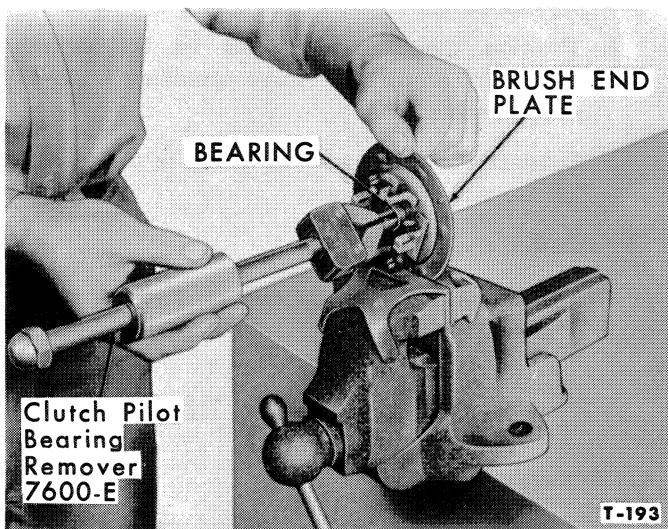

Figure 26—Removing Brush End Plate Bearing
1. Remove the bearing from the brush end plate as shown in Figure 26 with Clutch Pilot Bearing Remover 7600-E.